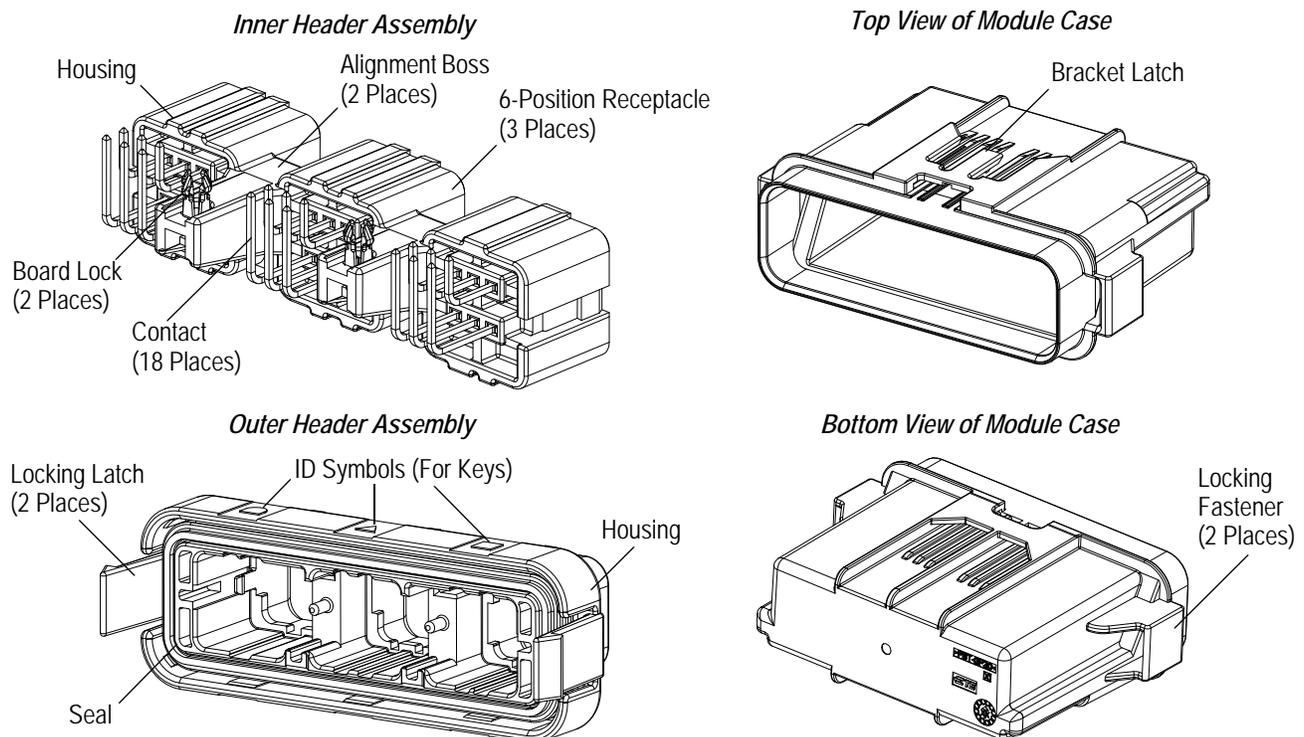
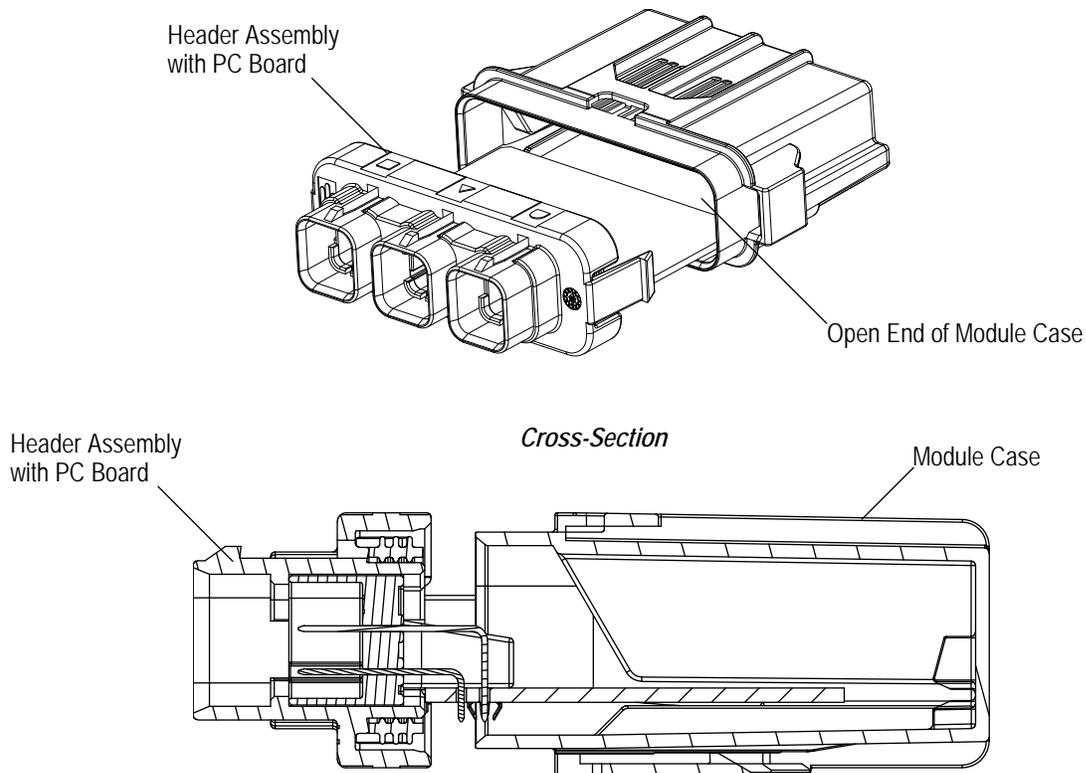

Figure 1
Figure 4
When corresponding with personnel, use the terminology provided in this specification to facilitate your inquiries for information. Basic terms and features of this product are provided in Figure 1.
- Replaced illustration of bottom view of module case in Figure 1 and illustrations in Figure 4
Care must be taken to properly align the header assembly to the module case before installing the module case onto the header assembly. See Figure 4.